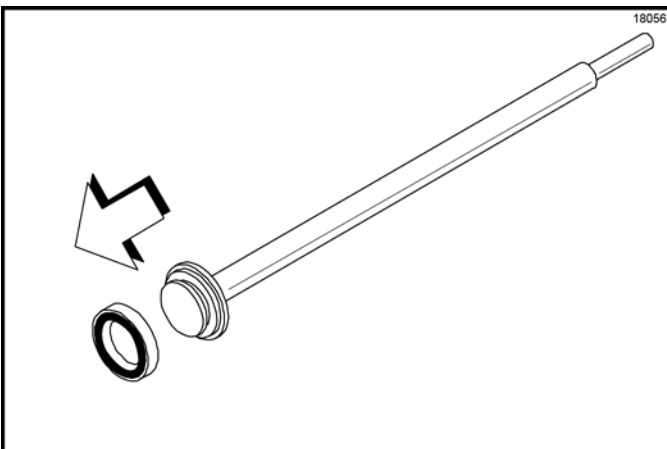

Figure 6-96
7. Remove the seal assembly from the plunger assembly. (See Figure 6-96.)